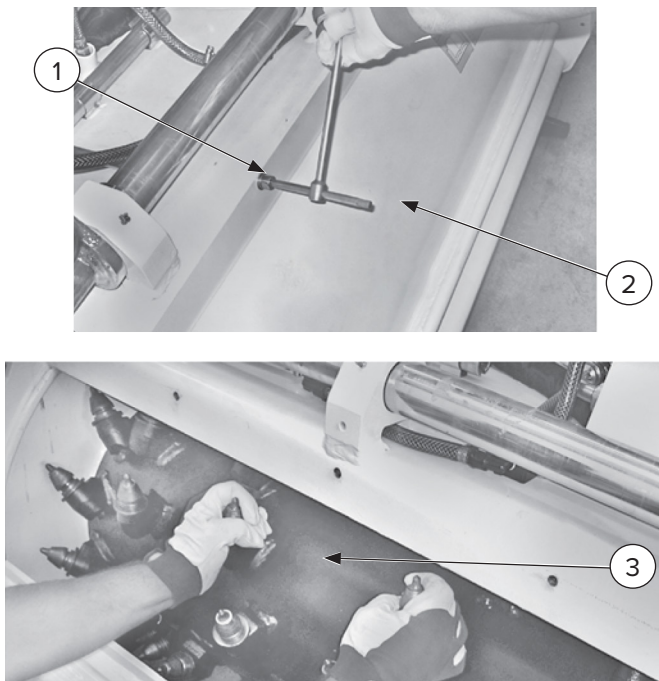

Figure 11
4. Remove the screws [Figure 11, Item 1] and open the drum access panel [Item 2].